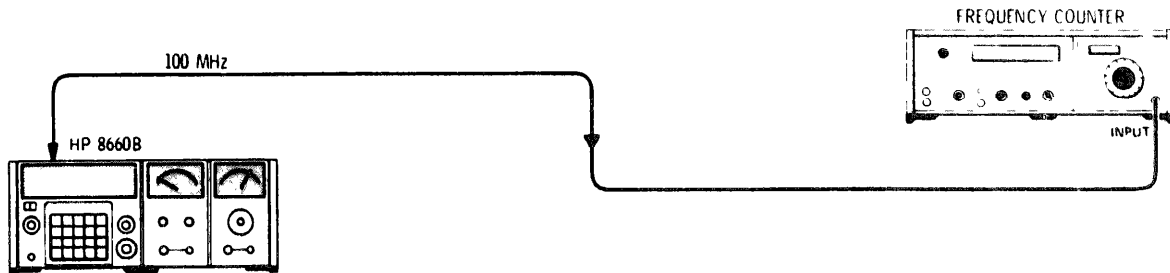

Figure 5-4. 100 MHz Adjustment Test Setup
- a. Connect the frequency counter to the 100 MHz output on the A4A4 assembly (see Figure 5-4)